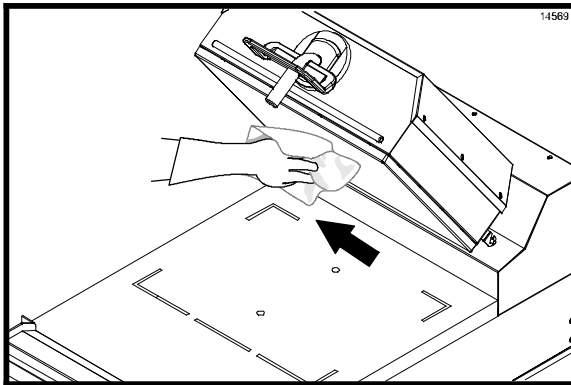

Figure 31
22. Rinse the front, sides, and back of the platen surfaces with a clean, sanitizer-soaked grill cloth. (See Figure 31.)